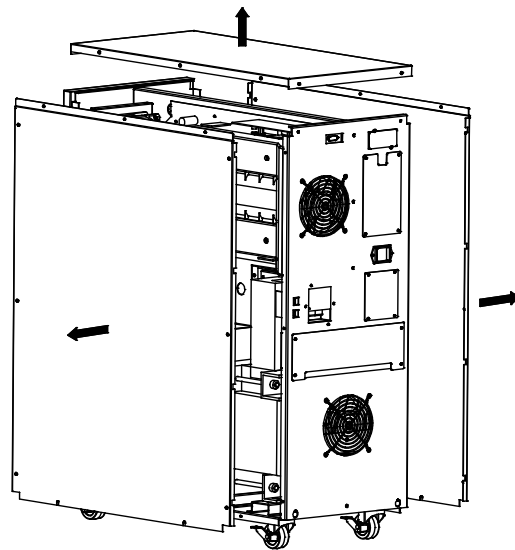

Figure 3.2
STEP 2: Move the top cover and side cover upward, as shown in Figure 3.2.